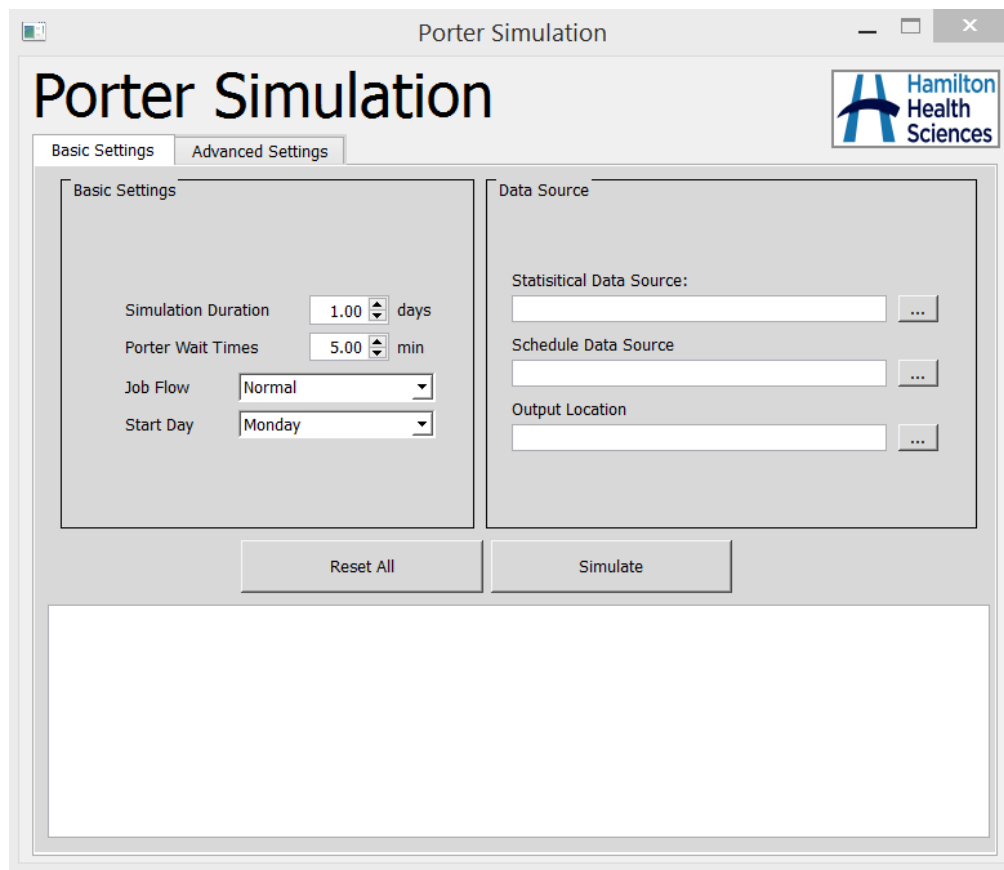

Figure 3.1: Basic Settings
- (b) Figure 3.1: BasicSettings.png